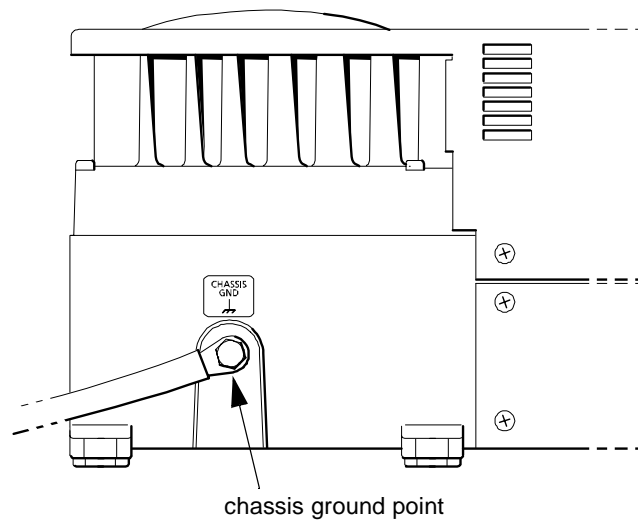

Figure 10 Completed DC Grounding
1. Using the appropriate wrench, loosen the bolt on the chassis ground point shown in Figure 10.